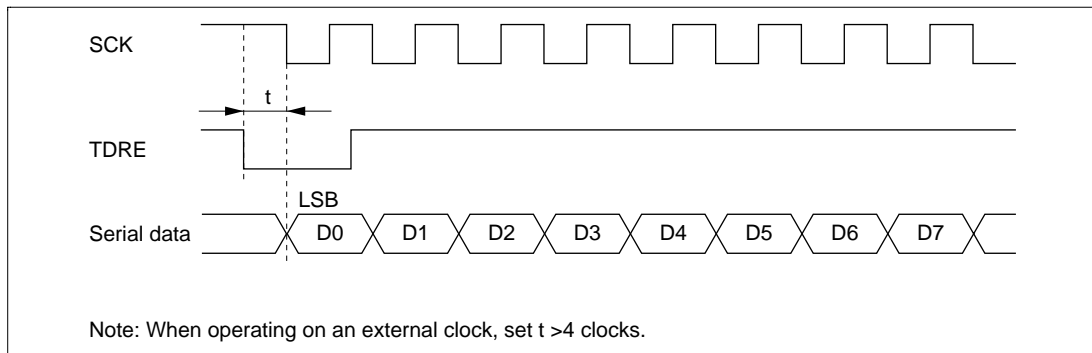

Figure 16-24 Example of Clocked Synchronous Transmission by DTC*
- When an external clock source is used as the serial clock, the transmit clock should not be input until at least 5 ϕ clock cycles after TDR is updated by the DMAC or DTC. Misoperation may occur if the transmit clock is input within 4 ϕ clocks after TDR is updated. (Figure 16-24)